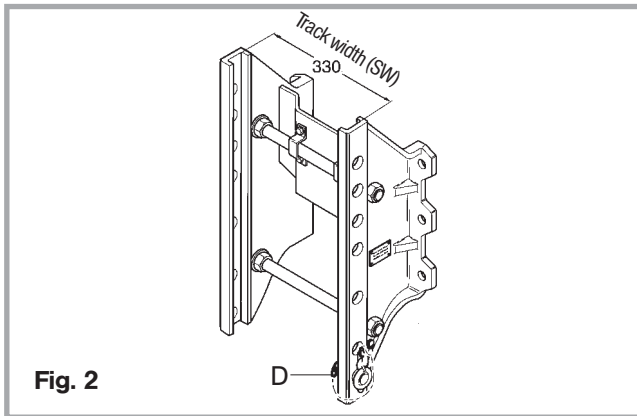

Fig. 2
- Remove locking pin (D, see fig. 2) as necessary
- Remove linchpin and pin (B).
The hitch heads (see Fig. 2) can reach 2 swivel angles simultaneously, e.g.: